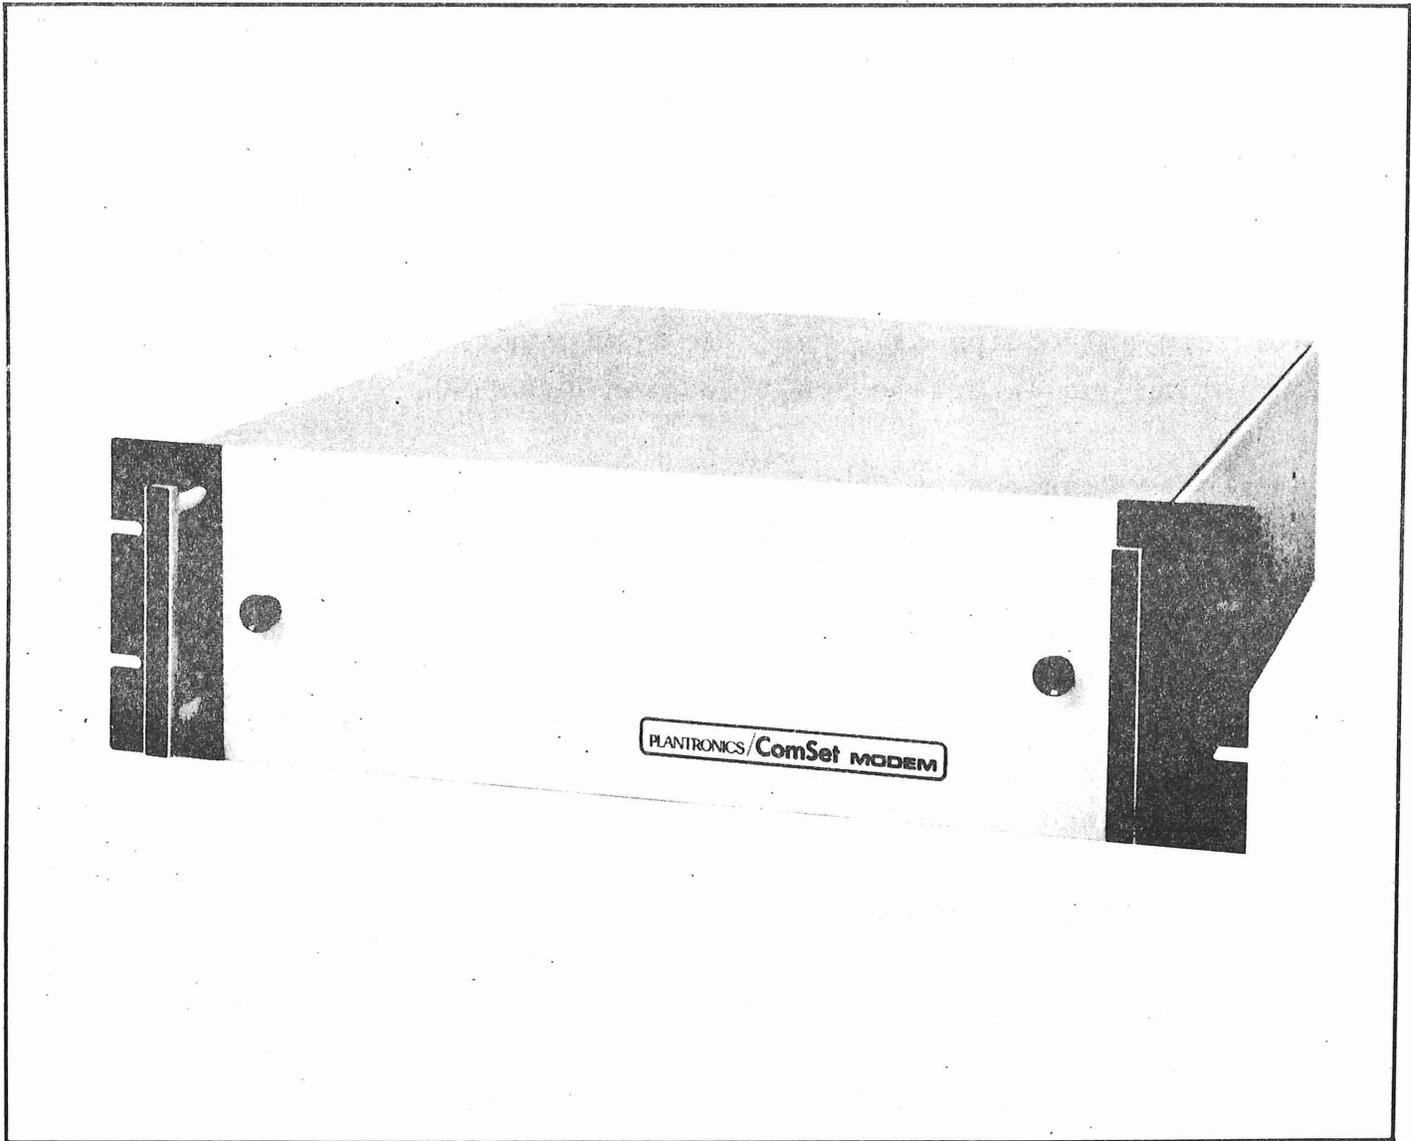

Figure 1-1. Plantronics/ComSet Modem DS151A
1.01 This manual describes the Plantronics/ComSet Modem Model DS151A (figure 1-1), and includes procedures for installation and on-site testing. Full technical discussions and maintenance procedures are in the Plantronics/ComSet Model DS151A Maintenance Manual 09072-00. For detailed information on connection to and operation with the communications network and the DTE (data terminal equipment), refer to Plantronics/ComSet System Description and Interface Specification 09069-00.
2.01 The DS151A modem consists of a modem shelf (07750-00) and up to 10 plug-in circuit cards. The shelf mounts in a standard 19-inch rack or cabinet. The shelf can also be installed on a table, shelf, or other horizontal surface. Overall dimensions are 19 inches wide by 5-1/4 inches high by 20-3/4 inches deep; maximum weight is about 20 pounds (see figure 1-1). For a stand-alone type installation, an optional cover kit (09095-00) is available.